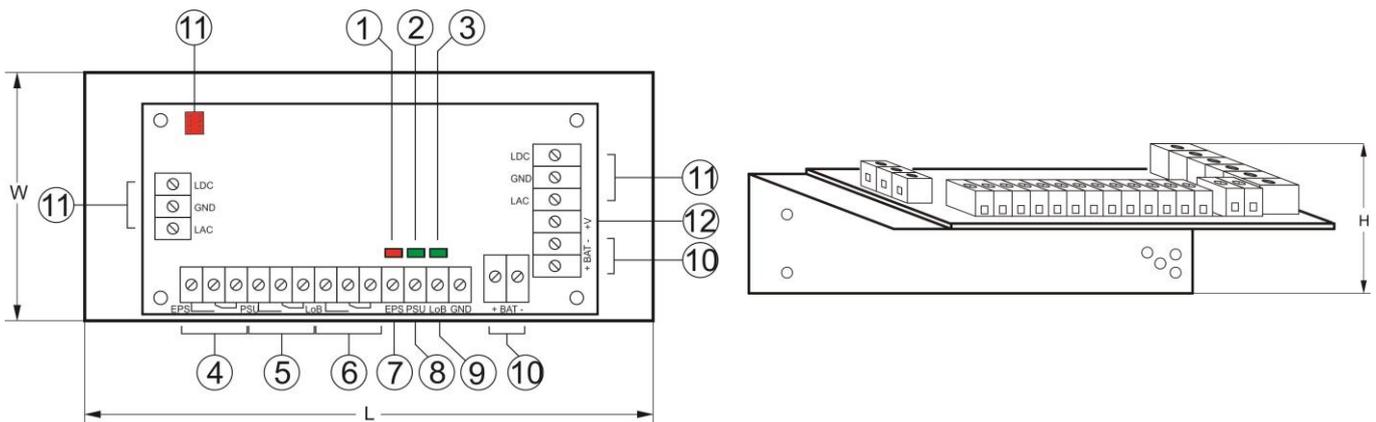

Fig. 1. The view of the module.
1.2. Description of the module's components and connectors (fig1, tab.1)
LED indication: - presence of AC power - presence of DC voltage at the PSU output - battery voltage level	<p>- red LED (fig.1, element 1). Under normal status (AC supply) the diode is permanently illuminated. The absence of AC supply is indicated by the AC diode going out. Caution: the LED indicates absence of AC power if the loss lasts minimum 10s.</p> <p>- green LED (fig.1, element 2) indicates DC power at the PSU output. Under normal status the diode is permanently illuminated. In case of a short circuit or an overload, the diode is off.</p> <p>- green LED (fig.1, element 3) indicates battery voltage level. Under normal status ($U_{BAT} > 11,5V$) the diode is permanently illuminated. In case of decrease of battery voltage ($U_{BAT} < 11,5V$) the diode is off.</p>